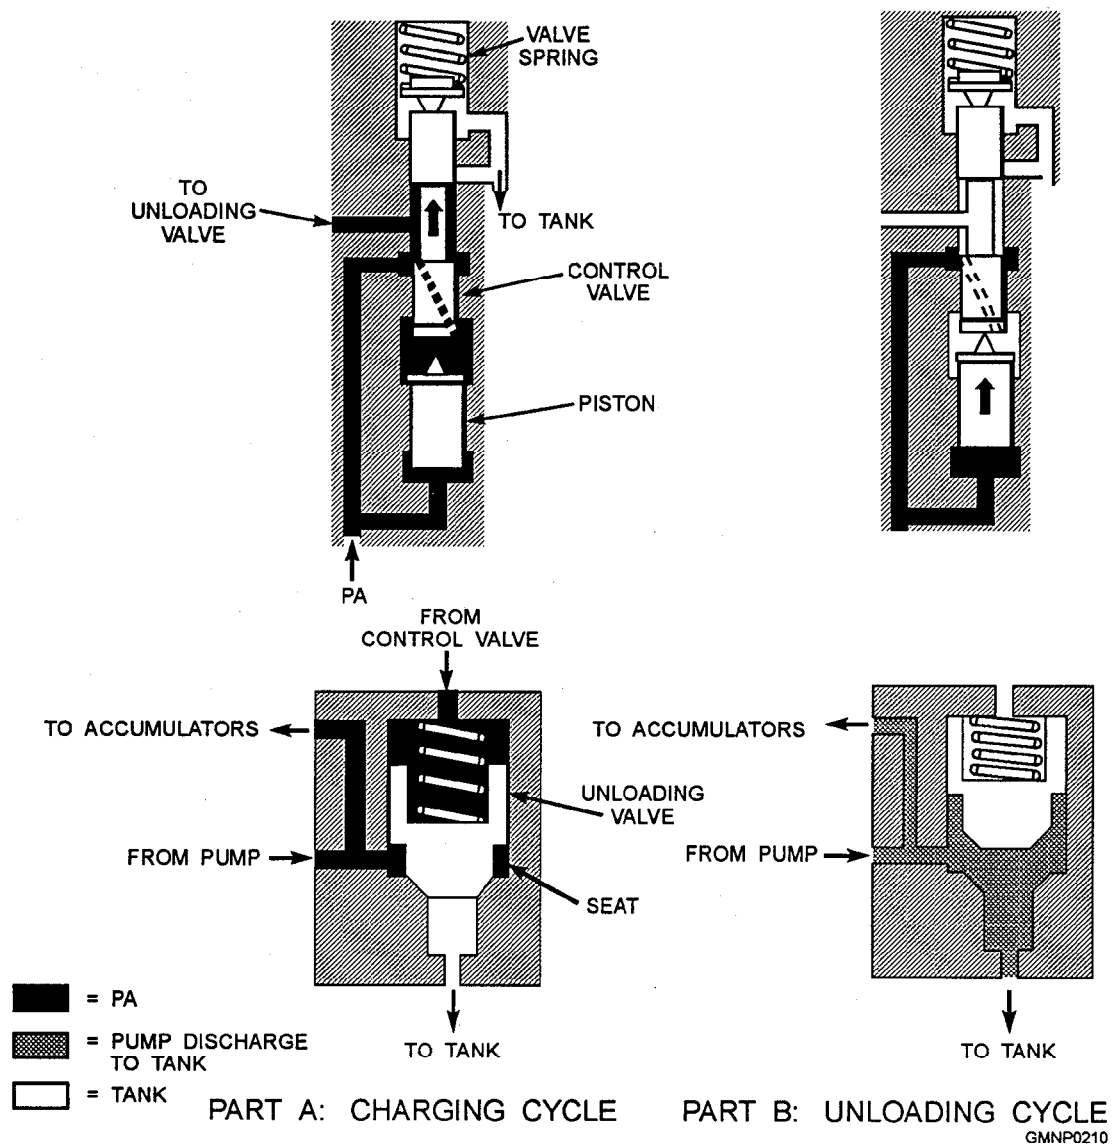

Figure 4-18.—Control and unloading valves.
The control and unloading valves shown in figure 4-18 are used to regulate the operating pressure in an accumulator power drive system. The operating range of the fluid pressure for the functional description that follows is assumed to be 950 psi to 1,050 psi.
During an accumulator charging cycle (fig. 4-18, part A), the spring holds the control valve in the DOWN position. A drilled hole through the lower land of the control valve ports system pressure (PA) from the accumulator to the chamber between the control valve and its piston. The piston has PA applied to both ends and, therefore, does not affect operation of the control valve during this portion of the cycle. However, PA is only applied to the lower end of the control valve. The position of the control valve is determined by the amount of pressure in the accumulator system. As the pressure increases, the valve moves upward against spring pressure.